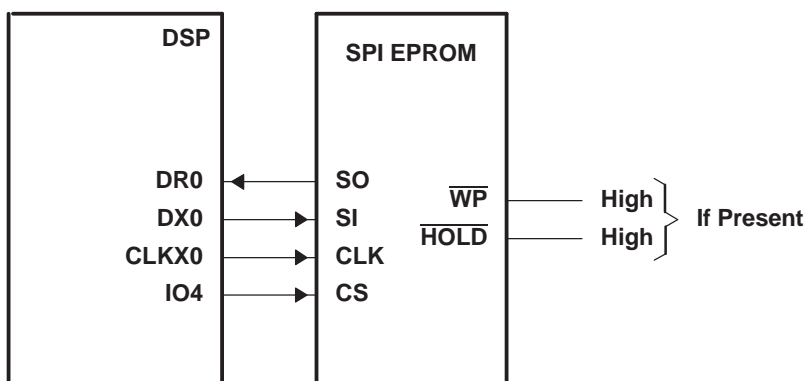

Figure 4. Signal Connections for SPI EEPROM-Boot Mode
In SPI EEPROM-boot mode, the DSP acts as an SPI master, and the memory acts as the slave. The minimum connection required between McBSP0 and the SPI EEPROM is shown in Figure 4. CLKX0 is the master clock driving the EEPROM CLK signal. In the SPI EEPROM-boot mode, the CLKX0 period = 244 x (DSP input clock period). DX0 transmits data to the EEPROM serial data input (SI) signal. DR0 receives data from the EEPROM serial data output (SO) signal. IO4 is used to operate the EEPROM chip select (CS) signal. IO4 automatically enables the EEPROM when the bootload is ready to begin, and disables the EEPROM when the bootload is complete.